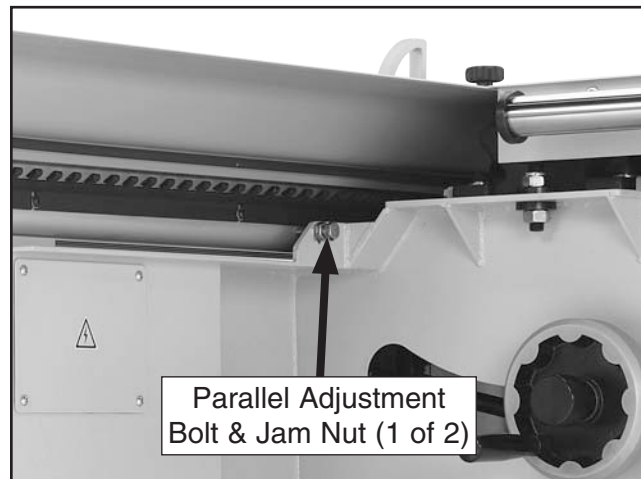

Figure 23. Sliding table parallel adjustment bolt (1 of 2).
18. Loosen the jam nuts on the sliding table parallel bolts (see **Figure 23**) that are on both sides of the cabinet behind the sliding table, then adjust the bolts in or out in small increments to change the sliding table parallelism to the saw blade.